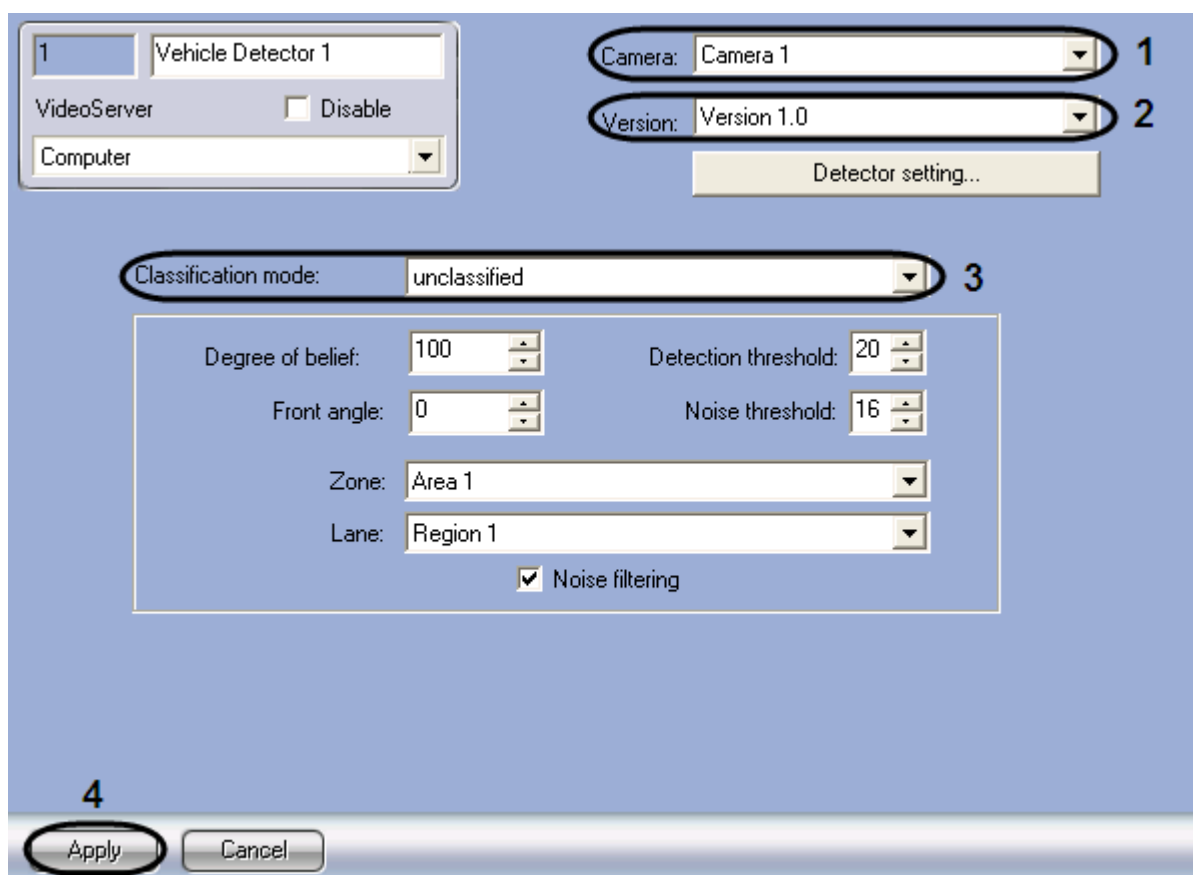

Fig. 7.7—2 Setting up the Vehicle detector parameters
1. Go to the «Vehicle detector object» settings panel (Fig. 7.7—2)
2. From the «Camera» dropdown list select the Camera object, corresponding to the camera of the Vehicle detector (Fig. 7.7—2, 1)
3. From the «Version» dropdown list select the required detector's version(Fig. 7.7—2, 2)
4. From the «Classification mode» dropdown list select the required classification mode of detected vehicles for storing the information to the Vehicle processor database (Fig. 7.7—2, 3)